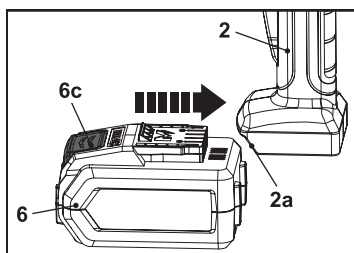

Fig. 6
- Align the groove on the battery pack (6) with the corresponding ribs in the receptacle (2a) of the spray gun (2).
- Insert the battery pack (6) until it is securely locked in position (Fig. 6).